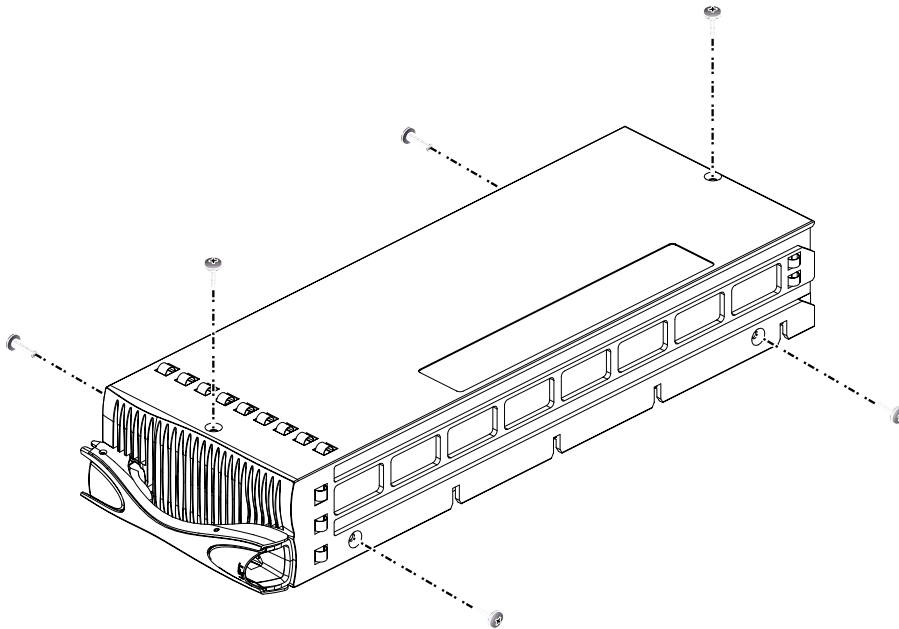

FIGURE 1 Removing the Blade Cover Screws
1. Remove the blade cover screws (FIGURE 1).